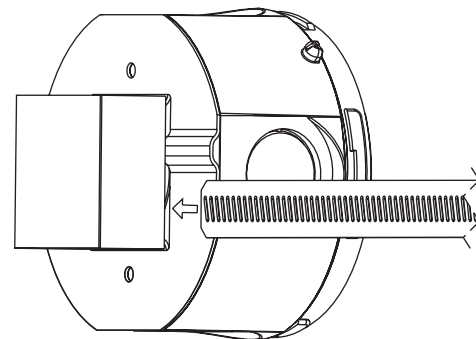

Figure 2
4. Slide the open end of the strap through the gap in the stainless steel mounting plate underneath the foam block opposite the copper plate, as shown in Figure 2.